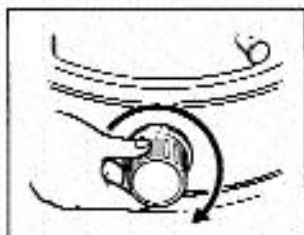

Fig. 14
- Turn the wick adjuster knob clockwise until the wick has been raised to its maximum height.(Fig.14)